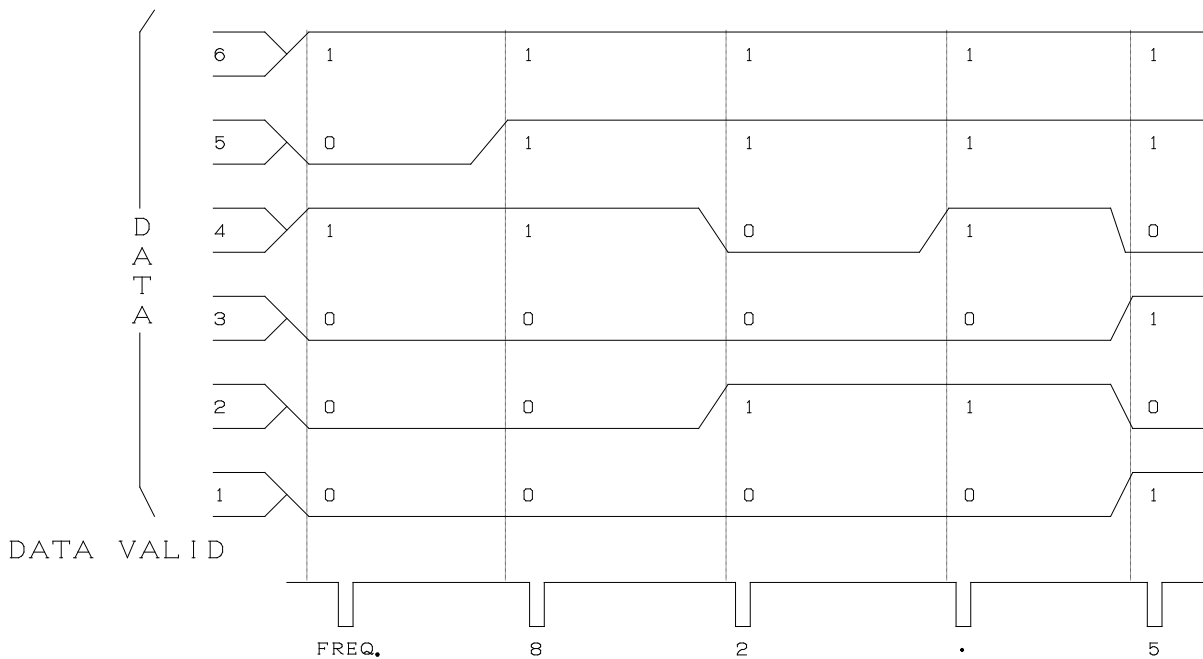

Fig. 19
- (1) Set the panel key code **FREQ** code of '101000', as shown in the key code table (page 59).
- (2) Using the **DATA VALID** data timing (page 58) shown in the timing diagram, send this signal for 1ms or longer.
- (3) As shown in Fig. 19, 82.5 is set according to the code table and the **DATA VALID** signal is sent for at least 1ms.